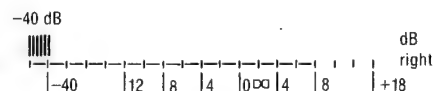

Fig. 17
5. At this time, check that  $-40 \text{ dB}$  indicator is dimmed (intermediate brightness between full brightness and light-out: See fig. 17).